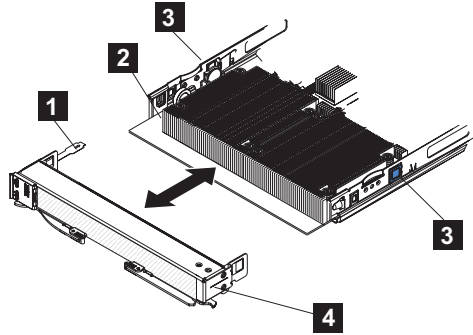

Figure 20. Installing the bezel assembly
1. Connect the control-panel cable ( **1** in Figure 20) to the control-panel connector ( **2** ) on the system board.